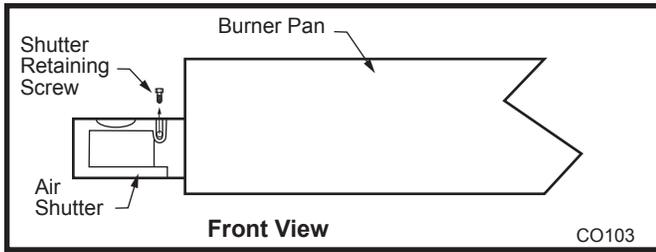

Fig. 71 Remove air shutter from burner pan.
- Remove air shutters from burner pan by removing shutter retaining screw then air shutter. (Fig. 71)